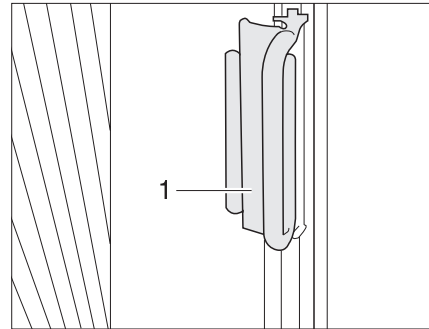

Fig. 10 Handle for folding blackout driver/passenger window
- Use the handles (Fig. 10,1) to slide the Roman shades for the windscreen under covers at the A column and fasten the handle on the cover.